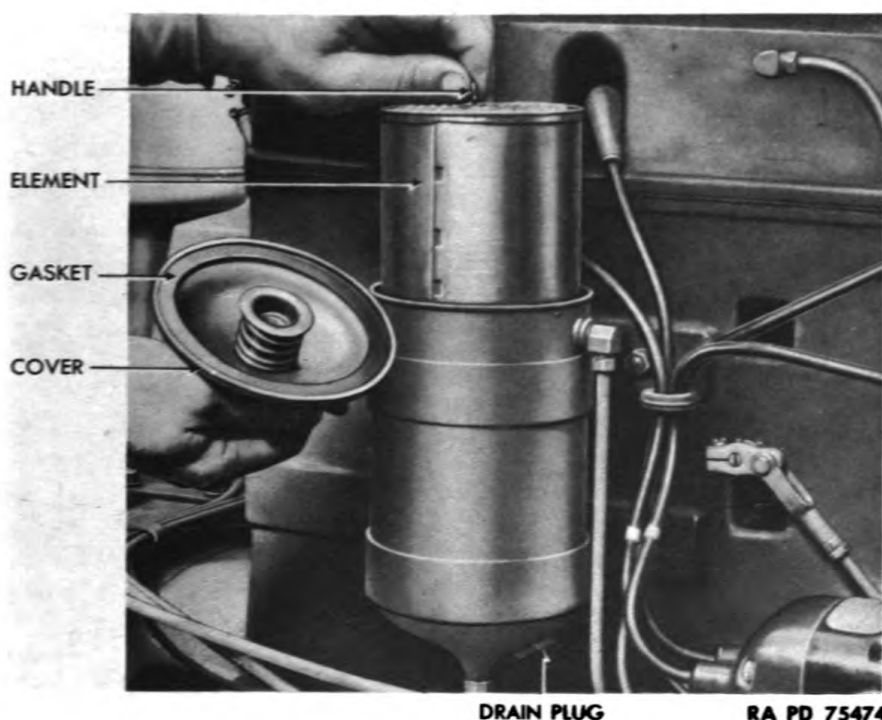

Figure 40 — Removing Compressor Unit Engine Oil Filter Element
- (6) LUBRICATION SYSTEM.
- (a) *Removal of Oil Filter Element* (fig. 40).
(b) Installation of Oil Filter Element (fig. 40).